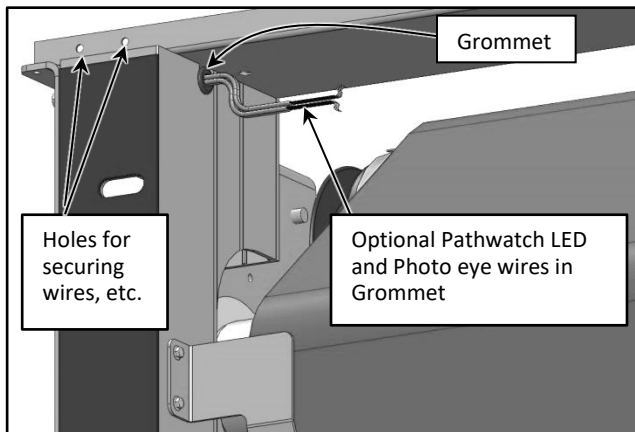

Figure 19
13. Route the (optional) Pathwatch LED and Photo eye wires up between the rear spreader bar on the head assembly and the wall to the top of the spreader. Use zip ties or another similar fastener to secure them to the spreader in the holes provided. (See Figure 19)